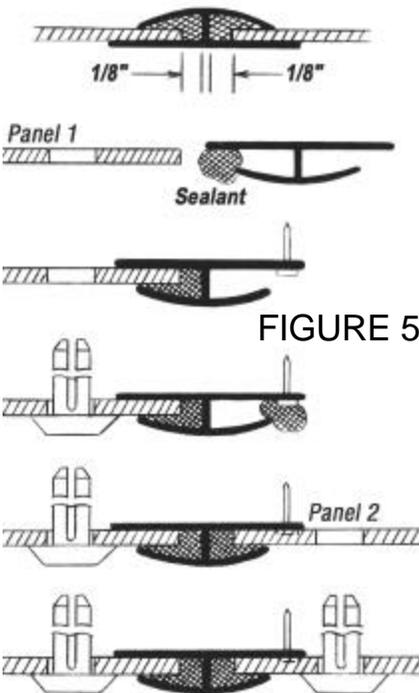

FIGURE 5
- Install one-piece division bar and caps or next molding piece by laying down a bead of silicone in molding groove and sliding completely onto the panel. Withdraw the molding or division bar 1/8" to provide proper spacing (see figure 5). The free edge of the molding or division bar may be tacked in place if preferred before installing the next panel.